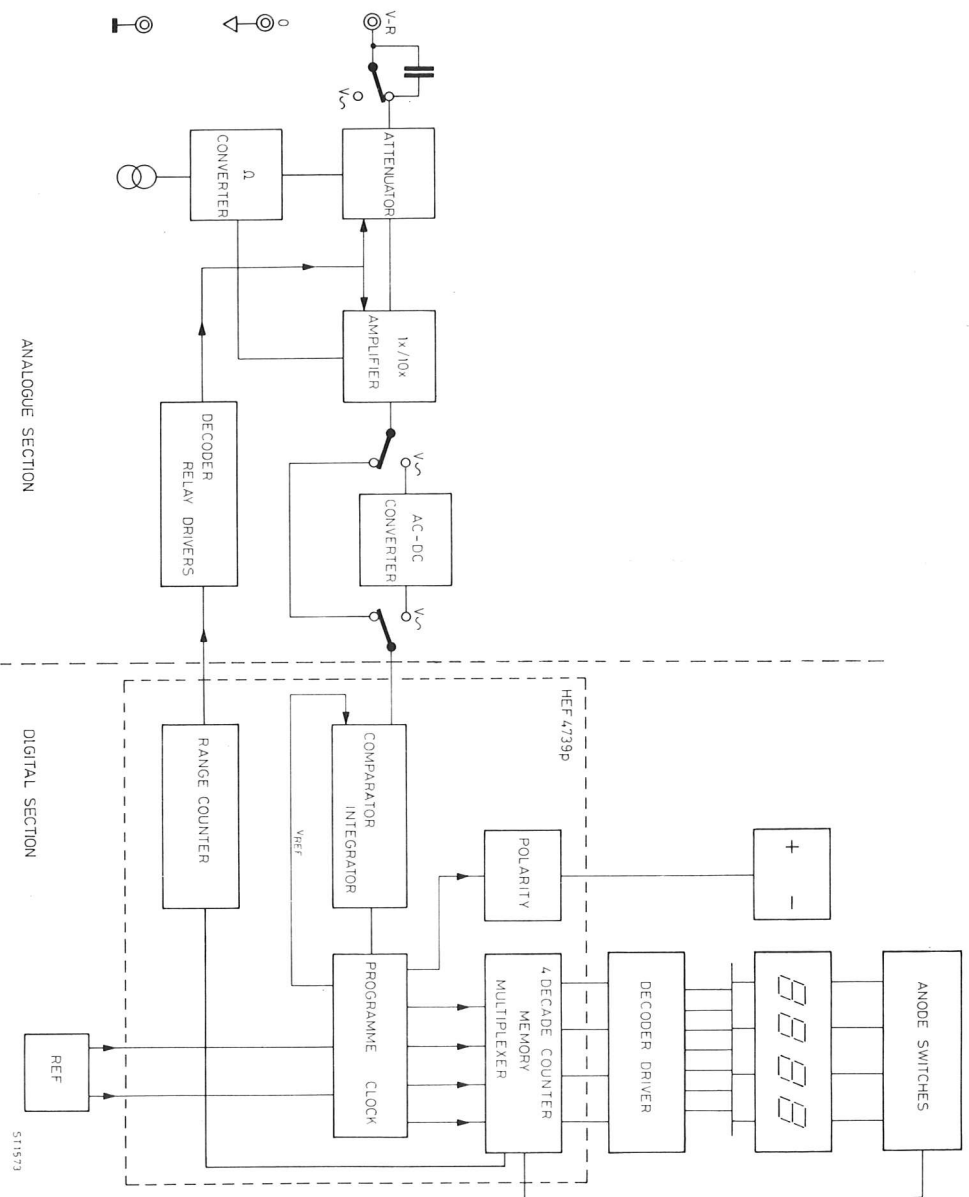

Fig. 10. Block diagram PM 2523
- a) The analogue section } see Fig. 10